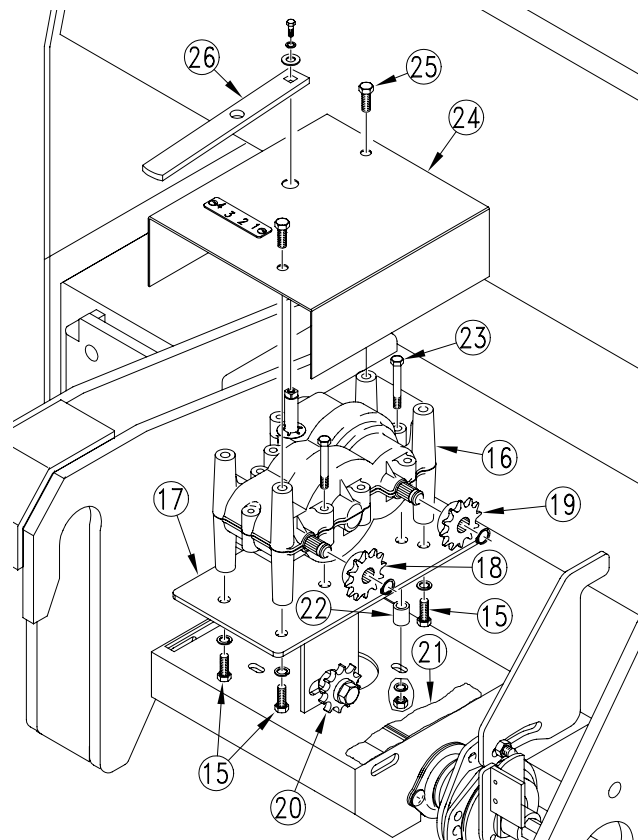

Figure 3
Refer to Figure 3
16. Refer to Figure 3 and assemble new gearbox cover (24) on gearbox using two 3/8-inch, self-tapping screws (25).
17. Assemble gearbox handle (26) onto gearbox with 1/4-inch bolt, lock washer and flat washer.